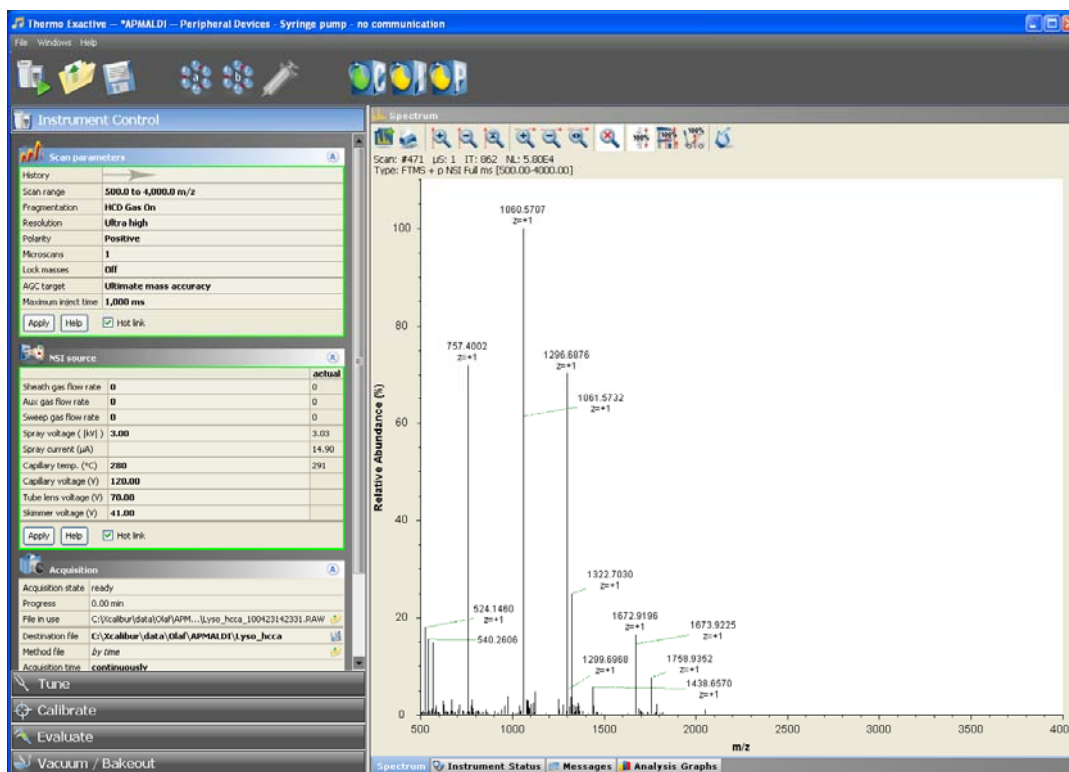

Fig. 7-20 Operation of Target software on the Exactive instrument computer.
- Fig. 7-20 represents a screen copy made during an AP/MALDI spectrum measurement of 100 fmol BSA digest with α -CHCA matrix. You can easily switch between the *Exactive Xcalibur* and *TARGET* programs to operate both the Exactive and AP/MALDI PDF source from the same computer. Or alternatively, separate computers can be used to run *TARGET* software and operate AP/MALDI.